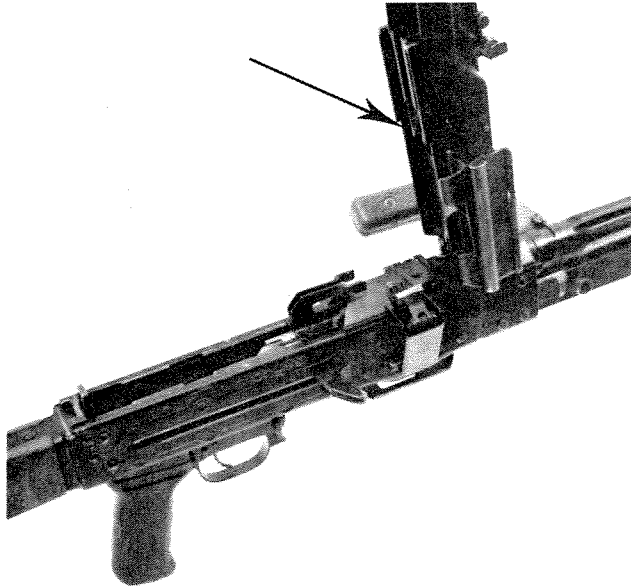
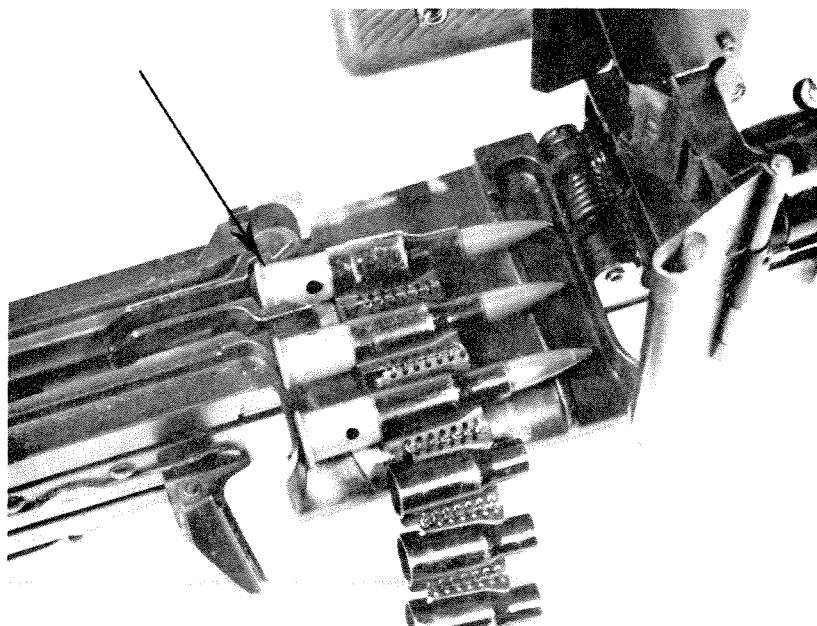

Figure 5-12. Ammunition feed tray cover open.
Figure 5-14. Insertion of the belt of dummy ammunition.
h. After the mainspring has been inserted into the receiver group, close the ammunition feed tray cover (figs 5-12 and 5-13); insert one belt of dummy ammunition (fig. 5-14), placing the first round of the ammunition into the cartridge space gripper and close the receiver cover. Pull the charging handle to the rear of the weapon to engage the round then push the charging handle forward. Pull the trigger, letting the round and the bolt go forward; the weapon is now ready for practice loading and firing.